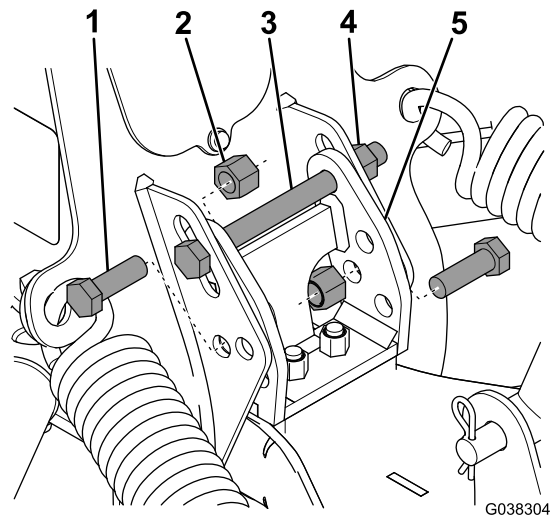

Figure 26
2. Loosen the nut securing the long bolt on the push-frame assembly, as shown in Figure 26.
3. Remove the 2 short bolts and nuts, as shown in Figure 26.
4. Raise or lower the bumper-stop bracket to the desired height (Figure 26).
5. Install the previously removed short bolts and nuts, and tighten the nuts on the long bolt (Figure 26). Torque the nuts to 76 N·m (56 ft-lb).